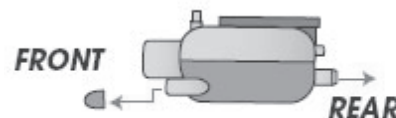

Fig. 3 – Detection Unit
4. Attach one end of the transparent tubing to the detection unit. The tube can be connected to either the front or the rear as shown in Fig. 3. block the unused outlet with the plug supplied.